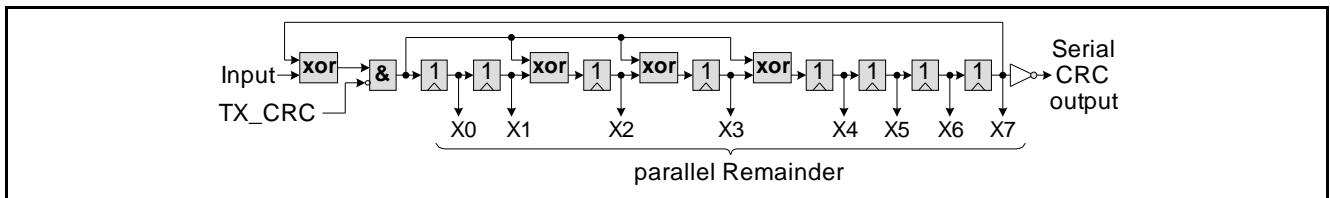

Figure 16 Fast CRC Polynomial Division Circuit
- Generator Polynomial: $X^8+X^4+X^3+X^2+1$, the fast CRC generation circuit, is used for CRC generation. (See Figure 16)
Figure 16 shows the fast CRC Polynomial.